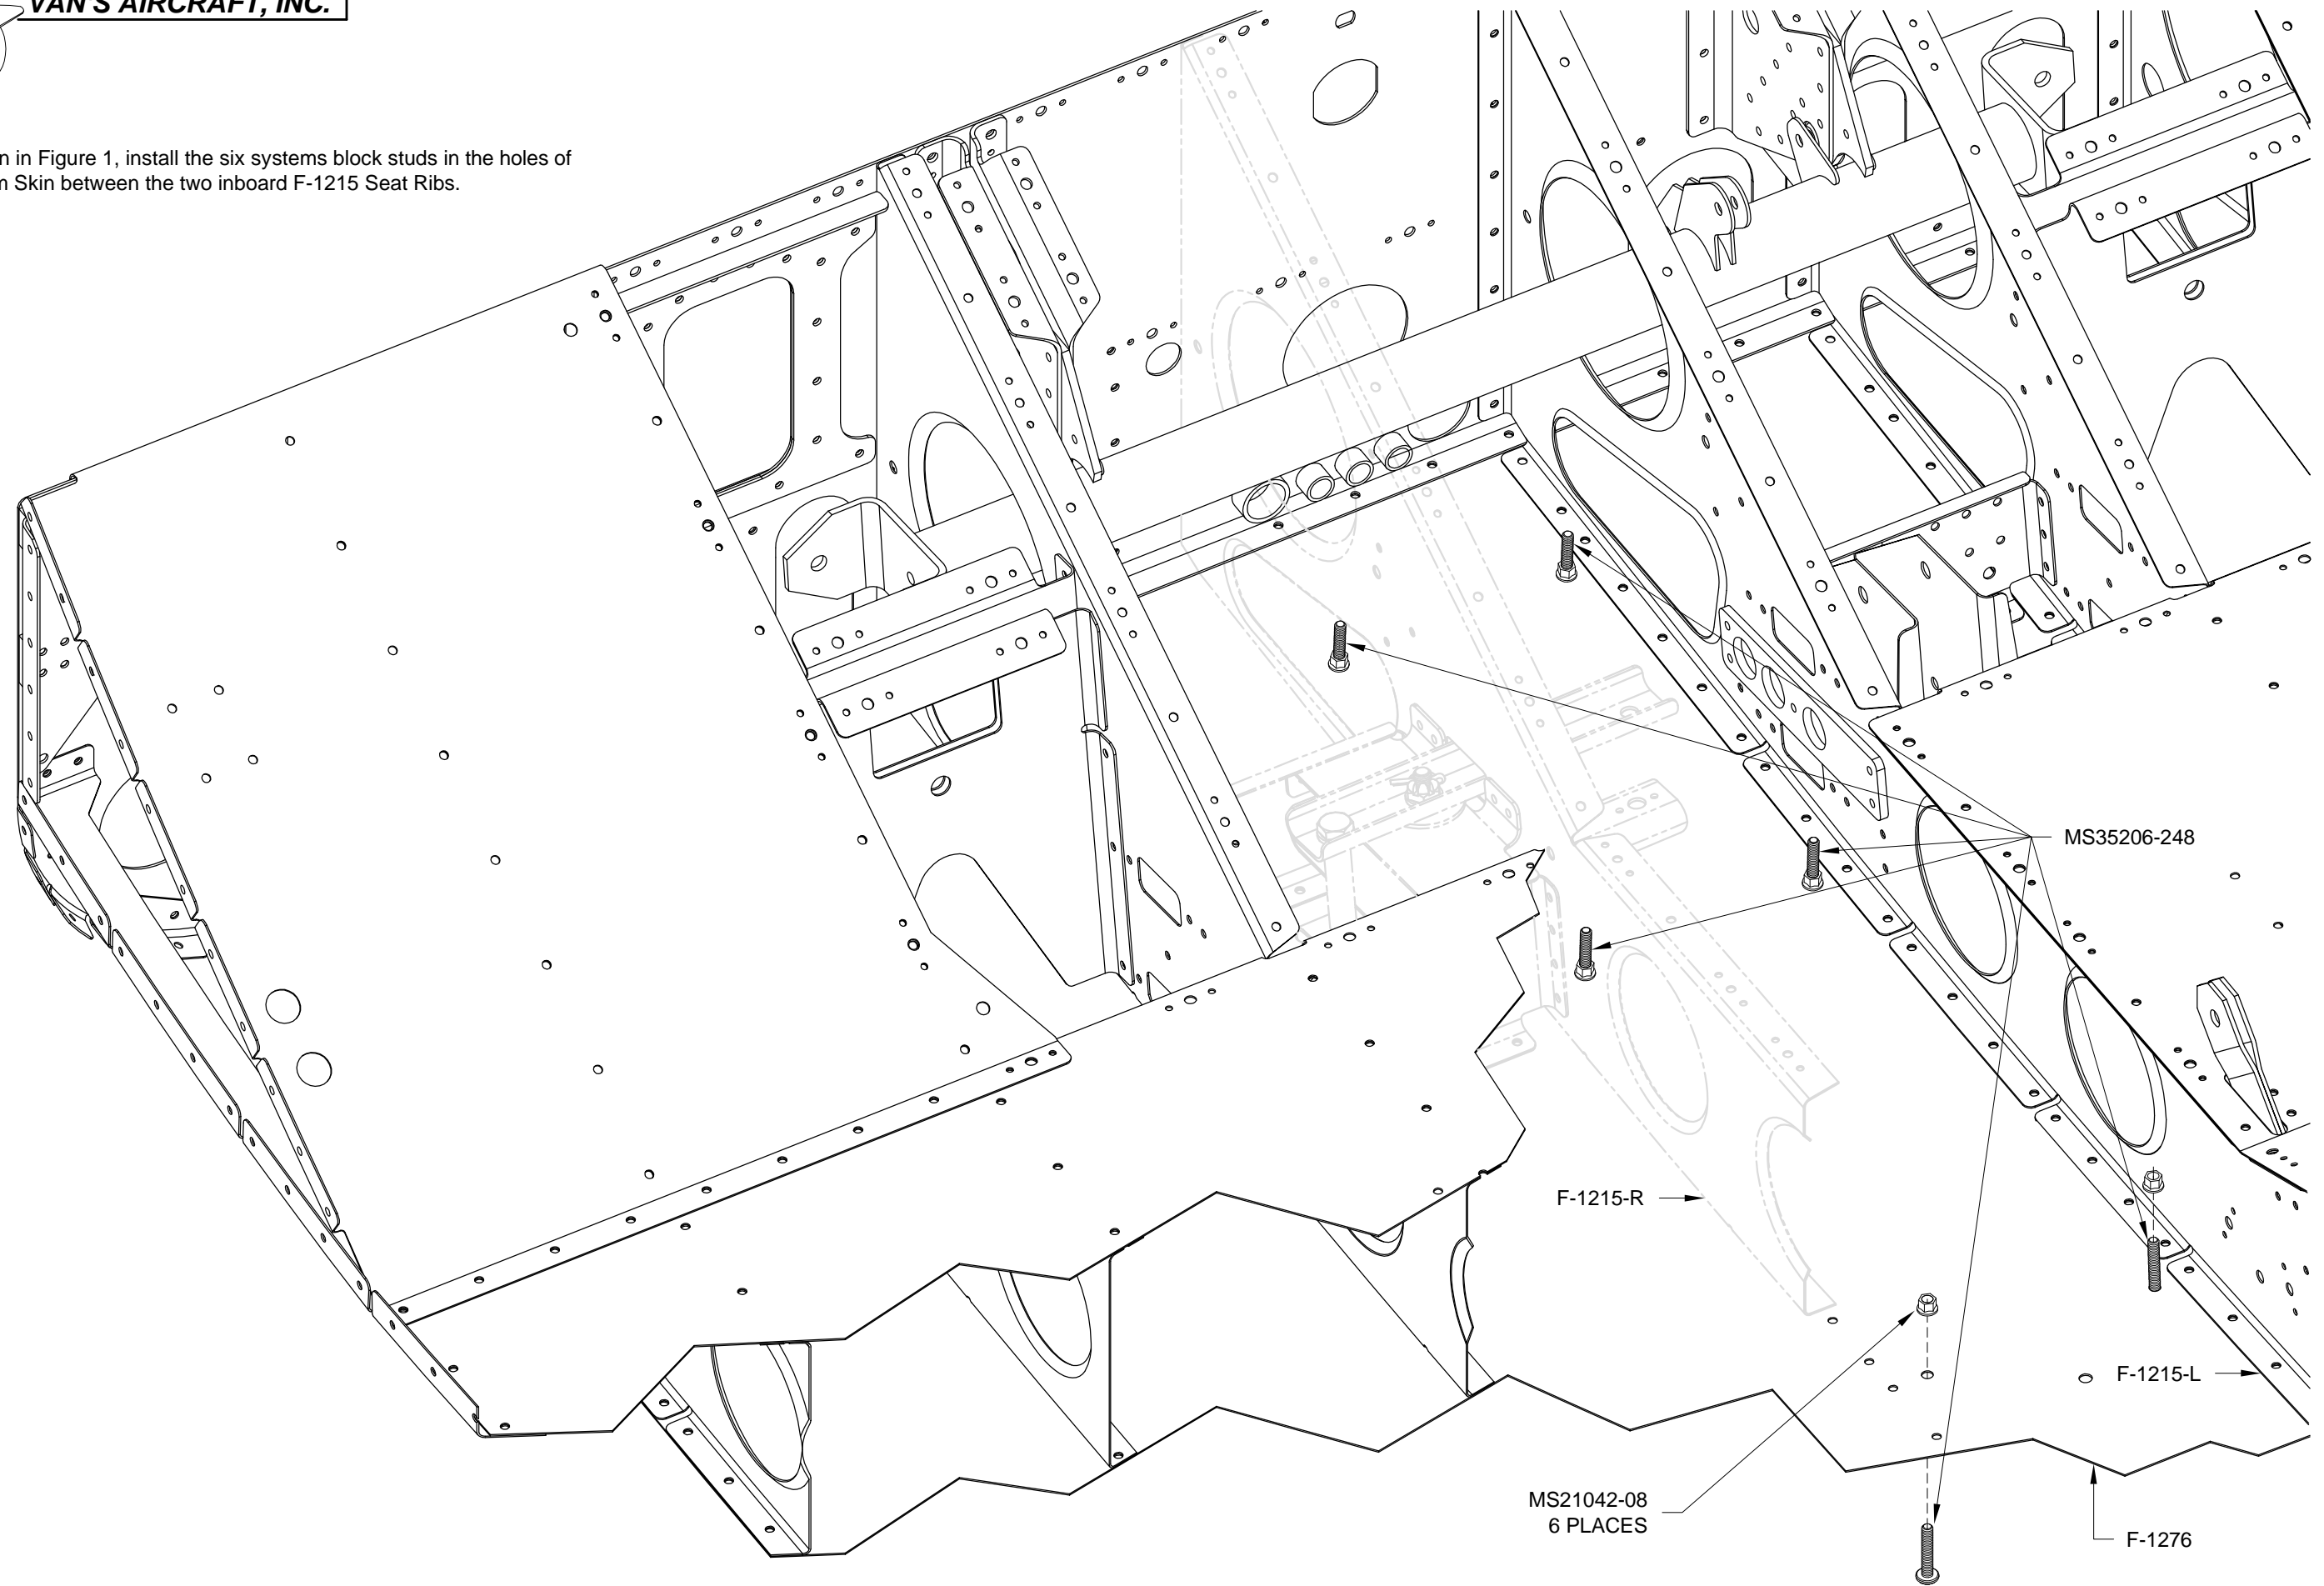

FIGURE 1: INSTALLING SYSTEMS BLOCK STUDS
Step 1: As shown in Figure 1, install the six systems block studs in the holes of the F-1276 Bottom Skin between the two inboard F-1215 Seat Ribs.